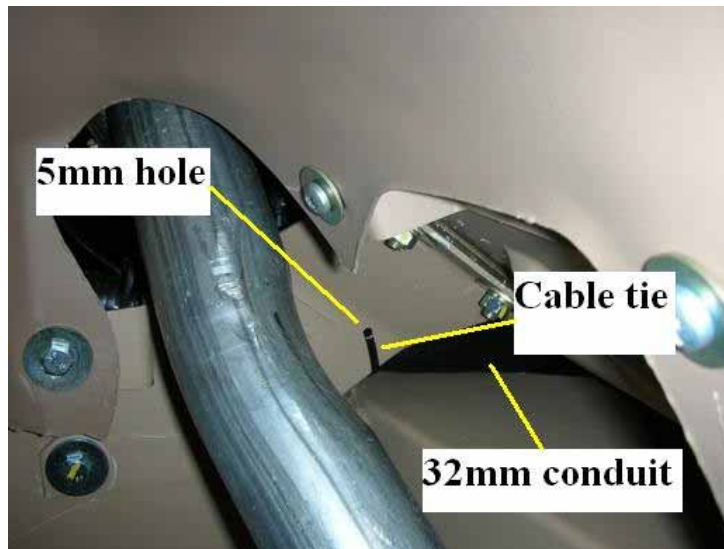

Figure 24 Last Attachment Point of the Battery to Starter Motor Harness
- (10) Working from under the left-hand front guard arch, drill a 5 mm hole in the firewall support bracket 20 mm along the fold line from the rear of the vehicle and secure the end of the battery harness to the bracket with a cable tie (Table 1, Item 87) as shown in Figure 24.